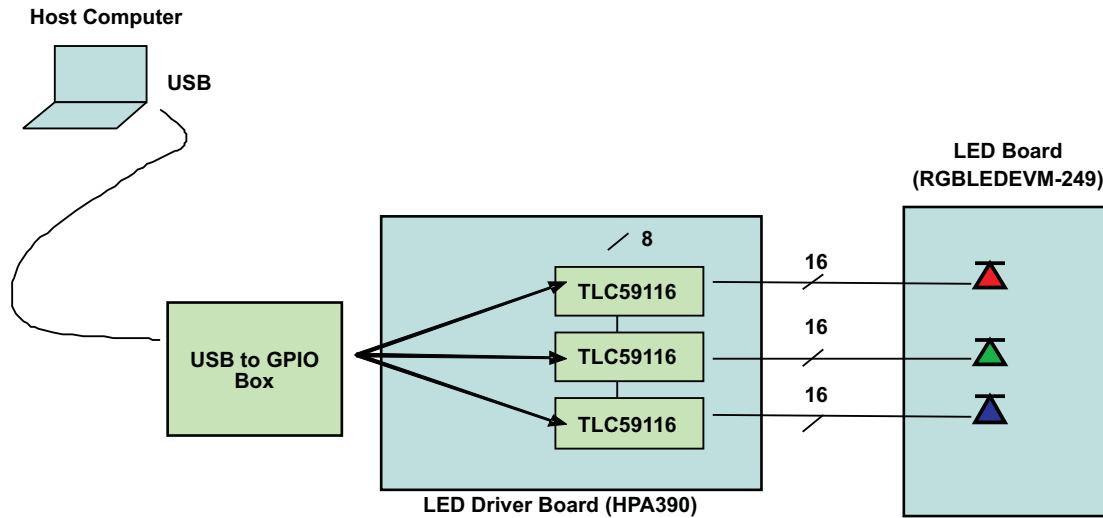

Figure 1. Driver Board and LED Board Connections
The TLC59116EVM-390 kit contains two printed-circuit boards (PCB): HPA390 (Driver board) and HPA249 (LED board). The Driver board contains the TLC59116 integrated circuits (IC) and their required external components. This board contains several jumpers and connectors that enable you to customize the board for specific operating conditions. The LED board contains 16 LEDs, each with three individual LEDs in the same package: a red, a green, and a blue LED. The orderable Texas Instruments part number for this PCB is RGBLEDEVM-249. The EVM is designed to directly drive the LED board. The customer can also remove the LED board to drive a custom LED board. Figure 1 shows how these boards are connected.